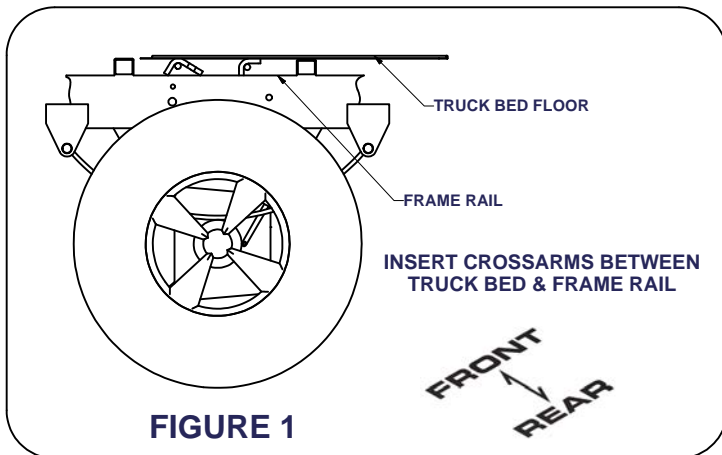

FIGURE 1
- 1) Install crossarms by sliding them into gap between the truck bed and frame from inside the wheel well. **As shown in Figure 1.**